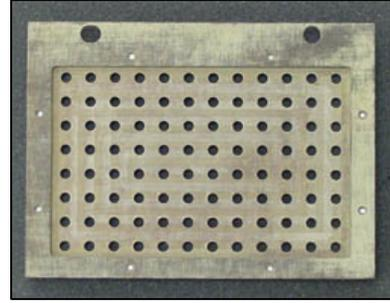

Figure 2. Blackboard tray
1. Locate the blackboard tray (P/N 604094) supplied with the instrument (Figure 2).